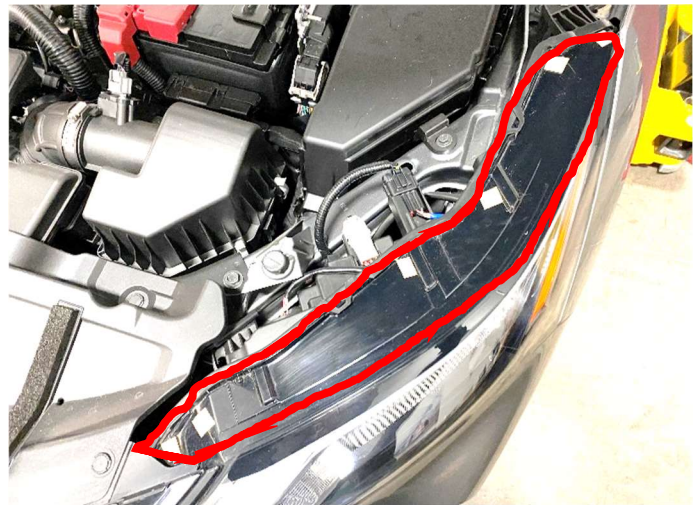

Figure 6
6. Inspect top black portion on left (only) combination lamp for cracks. (Figure 6)
- If cracks **"Are"** present, continue to Step seven (7) for combination lamp replacement